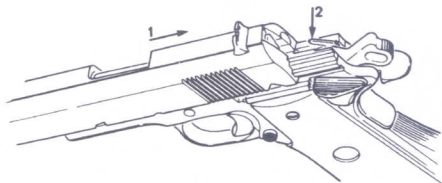

FIGURE 14—INSTALLING SLIDE
4. **(A, B & C)** Cock the hammer. Look at the top of the receiver and make sure the plunger lever is down (forward), tip the receiver forward to keep it down as you run the slide onto the receiver; (See Figure 14).